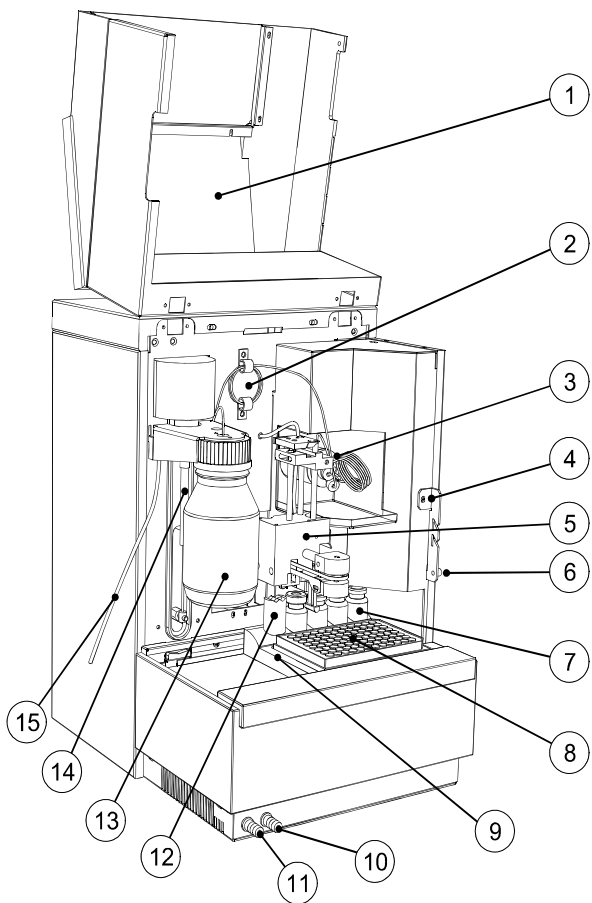

Figure 1 Front View of the ProStar 430
3. Install plate holder, Figure 1 (5), in the ProStar 430 (on the flat surface underneath wash solvent bottle; as far to the left and to the back as possible).
NOTE: Loosen the screw at the right-hand side of the cover, Figure 1 (6), and lift the cover to be able to execute the procedures described in this section.
Syringe waste: put the end of the syringe waste tube, Figure 1, (15) in a bottle placed next to the ProStar 430.
Drain wash-position: connect the hose to the drain wash connector of the ProStar 430, see Figure 1 (10); place the other end of the hose in a bottle placed on the floor. Through this drain all liquid dispensed to waste at the back of the plate is removed.
Condensed water and leakage: connect the hose to the drain port of the ProStar 430, see Figure 1 (11). Place the other end of the hose in a waste container on the floor. Through this hose all leakage solvents and condensed water (if Peltier cooling is installed) are drained.